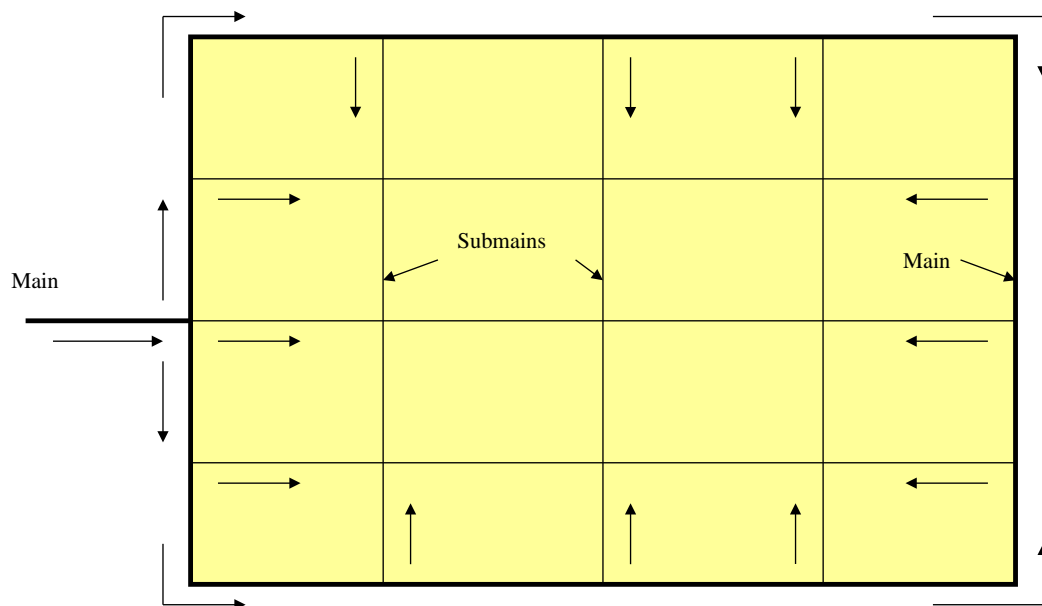

Figure 10: Ring System
- ✓ **Circle or Ring System** (Figure 10); and